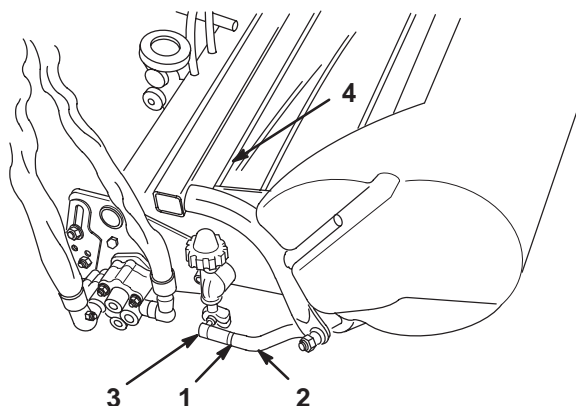

Figure 8
6. Mount the baskets on the pull frames, loosen the jam nuts on the pull arms, and adjust the ball sockets until there is 1/4 to 1/2 in. (6.4 to 12.7 mm) clearance between the lip of the basket and the reel blades (Fig. 8).
7. Align the sockets in the ball joints so the open side of the socket is centered towards the ball stud. Tighten the jam nuts to secure the sockets in position (Fig. 8).